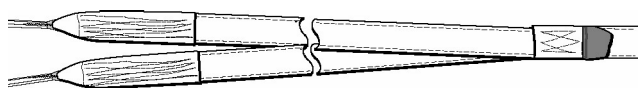

Figure 3. Split Suspension Lines
c. Split suspension lines between lines 1 and 10 in equal parts on each side and ensure no twists (Figure 3). (QA)